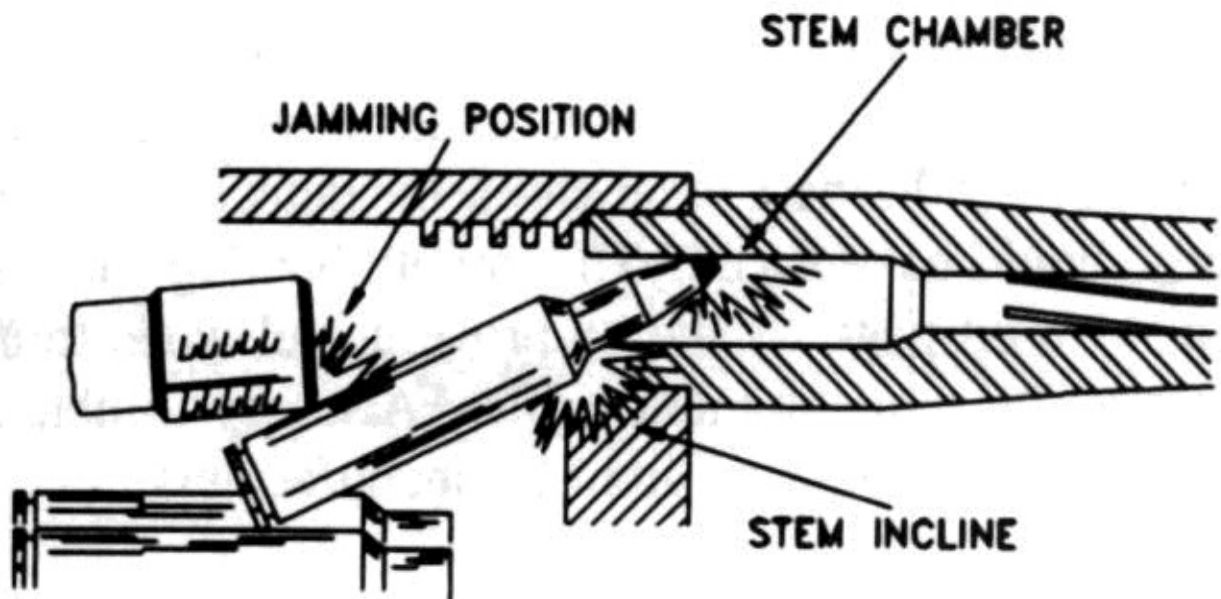

Figure 11-4: When a semiautomatic rifle fails to chamber, the most probable cause is the cartridge stems either the top or the bottom of the chamber.
*Rifle Fails to Chamber* . The most probable cause of this malfunction is that the cartridge stems either the top or bottom of the chamber (Fig. 11-4). If the cartridge stems the top of the chamber, check the barrel extension incline for a proper 45° angle; polish and blend smoothly. If the cartridge stems the bottom of the chamber, check the barrel extension for the proper 45° angle; polish and blend smoothly. You can also replace the magazine or adjust the front fold of the magazine lips to permit a higher angle of feed.